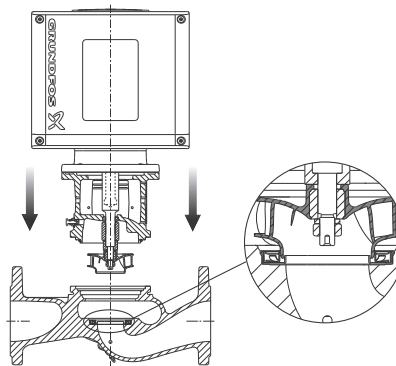

Fig. 10 Lowering of pump head
2. Gently lower the pump head with rotor shaft and impeller into the pump casing. See fig. 10.